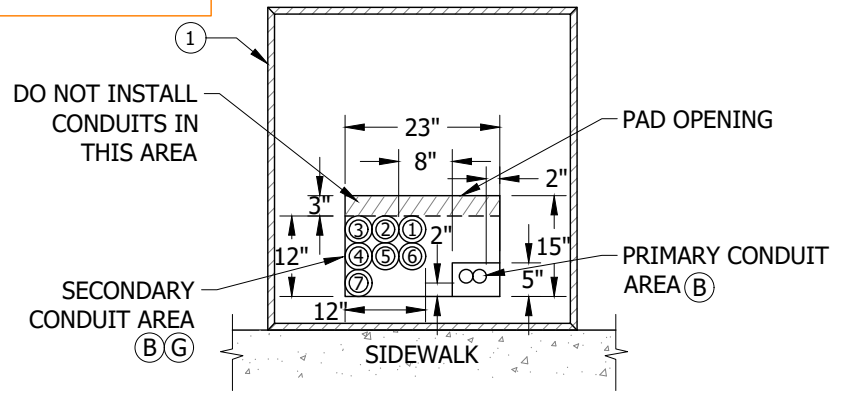

FIGURE 7
- (B) PLACE ALL PRIMARY AND SECONDARY CONDUITS WITHIN THE PAD OPENING AS SHOWN IN FIGURES 7 AND 8. DO NOT CUT INTO THE CURVED PORTION ON THE ELBOWS. RADIUS OF CURVATURE IS 36-INCH MINIMUM FOR 3-INCH AND 4-INCH CONDUITS. PLACE ALL CONDUIT WITH 3/0 OR LARGER CABLE TOWARDS THE REAR OF THE 12-INCH SECONDARY AREA. (C)
- (C) PRIMARY CONDUITS IN RIGHT HAND CORNER SHALL HAVE 2-INCH CLEARANCE FROM FRONT AND SIDE OF PAD.
- (D) THE CONDUIT CONFIGURATION REQUIREMENT BETWEEN TERMINATING POINTS LIMITS THE SECONDARY CONDUIT CONFIGURATION TO 2 WIDE X 4 DEEP OR 4 WIDE X 2 DEEP (NO ONE CONDUIT IS TO BE COMPLETELY SURROUNDED ON ALL FOUR SIDES BY OTHER CONDUITS), USING SPACERS AND 1 SACK CONCRETE SLURRY BACKFILL. CONDUITS MAY ALSO BE INSTALLED SIDE BY SIDE ON THE BOTTOM OF THE TRENCH WITHOUT SPACERS OR CONCRETE SLURRY (4 CONDUITS MAX.). IN THE TRANSITION AREA WHERE THE CONDUITS FROM THE BOTTOM OF THE TRENCH START TOWARD THE SURFACE (THE STRAIGHT PORTION BY THE 90 DEGREE BEND), SPACERS MAY BE REQUIRED TO ALLOW THE 90 DEGREE BENDS TO ENTER STRAIGHT INTO THE PAD OPENING. AT THE SURFACE POINT, THE CONDUITS MAY BE BUNDLED TOGETHER. USE SDG&E APPROVED BASE, SHADING AND BACKFILL.
- G. WHEN THE NUMBER OF REQUIRED CONDUITS IS LESS THAN THE TOTAL CONDUITS ALLOWED IN THE TABLE, INSTALL CONDUITS IN NUMBERED SEQUENCE AS SHOWN IN FIGURE 7.